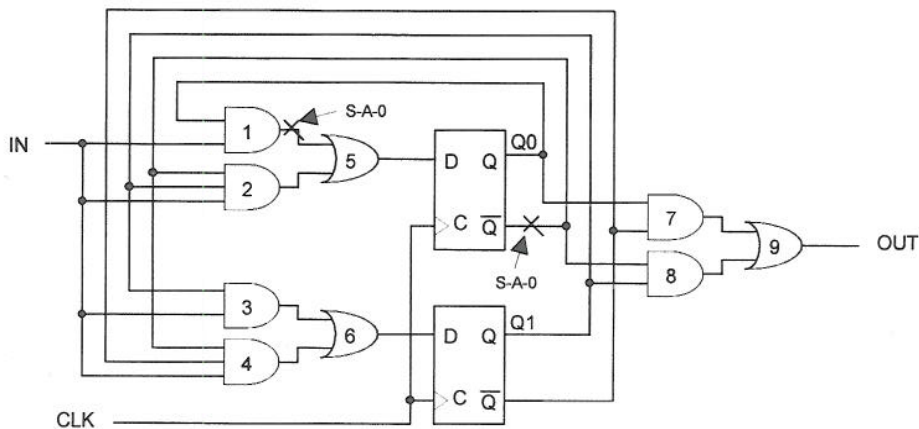

Figure 4.1
4. a) *Figure 4.1* shows the gate-level circuit diagram of a finite state machine with one primary input IN and one observable primary output OUT. Find a sequence of inputs that will detect a stuck-at-0 (S-A-0) fault on the  $\bar{Q}$  output of the upper flip-flop. Assume the existence of a master reset which initially resets all D flip-flops to 0.